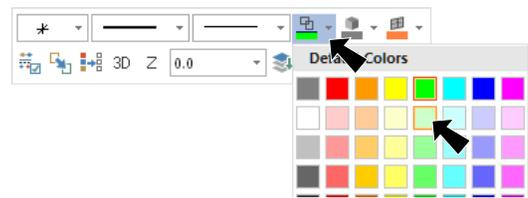

Fig. 33
Step 1. Sketch **switch** light green. **Right click** in the graphics window and on the Mini Toolbar click **Wireframe Color**  drop down arrow and select **light green**, Fig. 33.